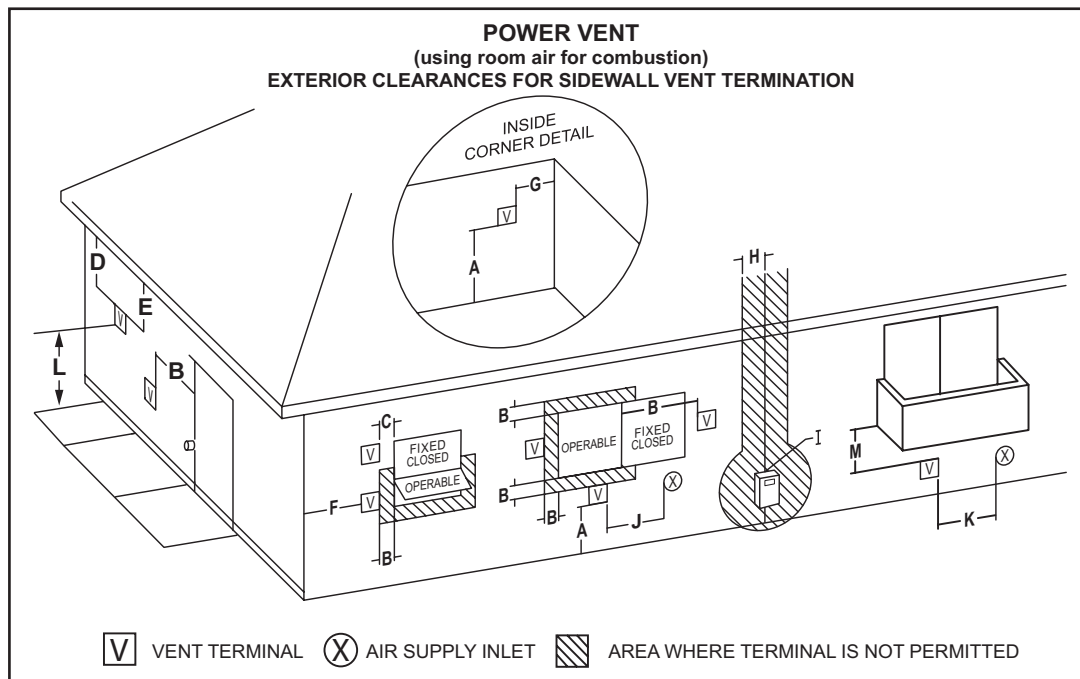

FIGURE 18A
1. If installing only vent (exhaust) piping in a Power Vent configuration through a sidewall; ensure that all exterior sidewall clearance requirements for the termination, shown in Figure 18A on page 20, are being maintained. These clearances and those cited by local and national codes must be maintained.